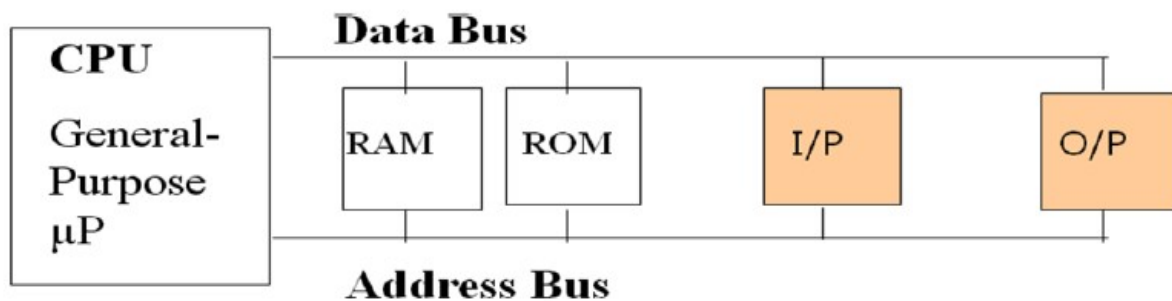

Fig 1.1 Block diagram of a microcomputer
- The hardware design of a microprocessor is arranged such that a very small or very large system can be configured around the CPU as the application demands as shown in Fig1.1.